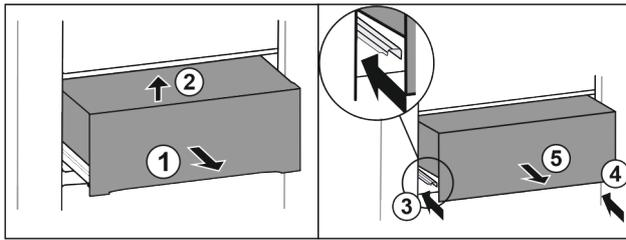

Fig. 28
- ▶ Pull out the drawer halfway Fig. 28 (1).
- ▶ Lift at the front Fig. 28 (2).
- ▶ Slide in left rail Fig. 28 (3).
- ▶ Slide in right rail Fig. 28 (4).
- ▶ Remove the drawer to the front Fig. 28 (5).